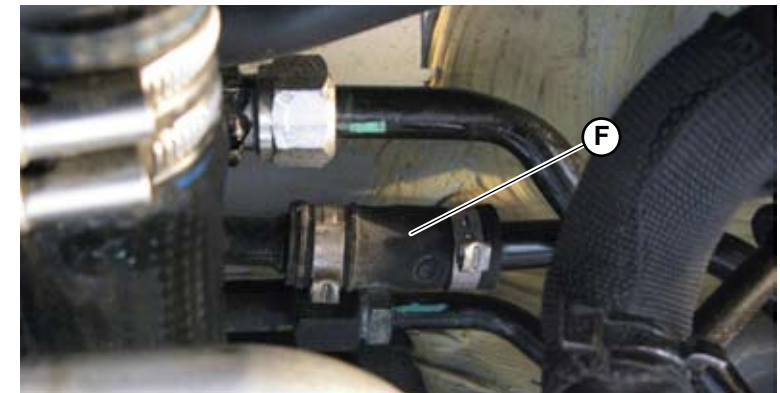

Fig.11
4. Connect the front part to the rear part of the pipe (**D-Fig.11**).